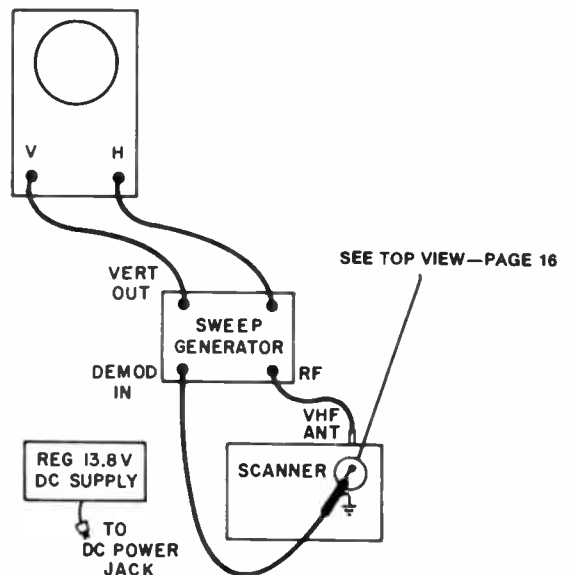

Figure 3—Test Setup for VHF RF Alignment.
1. Connect the test equipment as shown in Figure 3.
3. Set the squelch control CW, the volume control CCW, and the program switch to low (L).
3. Set the squelch control CW, the volume control CCW and the program switch to high (H).